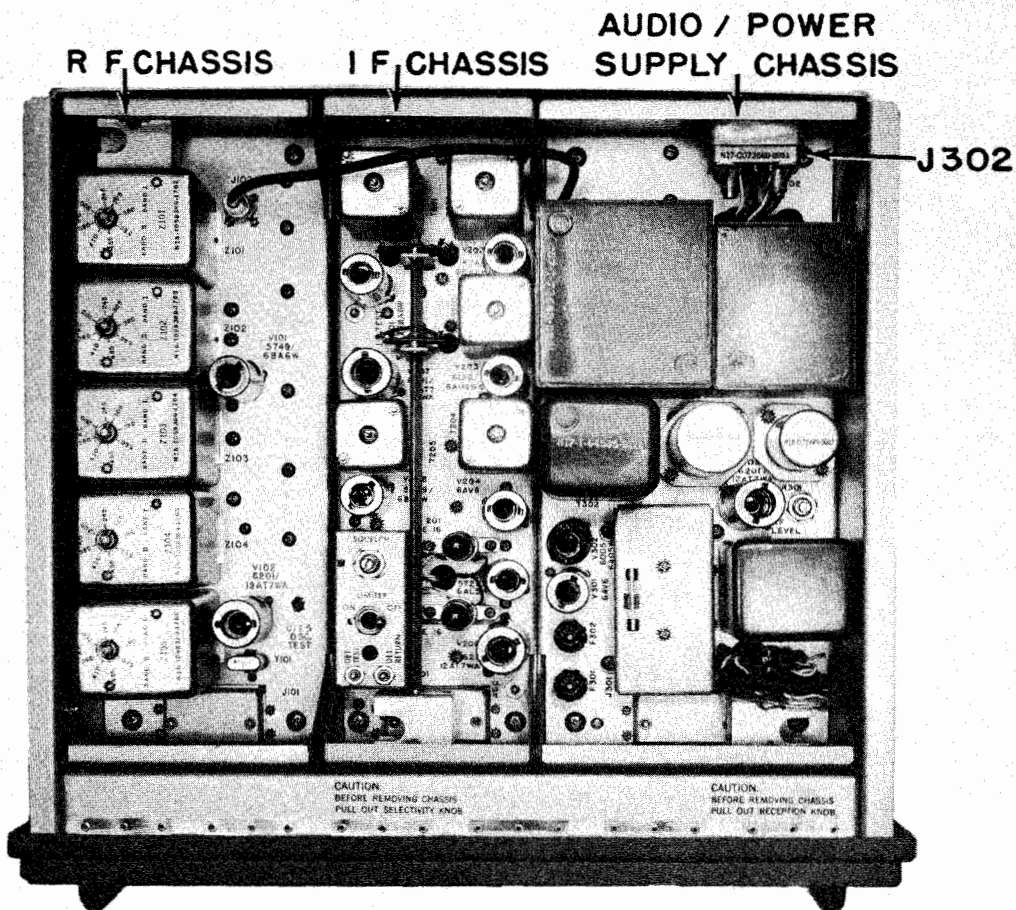

Figure 1-6. Photo—Top View of Chassis out of the case
d. CHASSIS ASSEMBLIES.—These units as indicated in figure 1-6 are completely wired assemblies, designed as plug-in units for quick removal and replacement. End angle brackets, at the front and rear, form handles which facilitate removal and handling. Four mounting stand-offs (one at each corner) with captive screws provide means of fastening the units to the panel-frame assembly. The receptacle connector, located at one end, is covered by a plate to avoid contact with voltage carrying wires. All coils and tubes are shielded except V302 which is held down with a tube clamp.
(1) RF CHASSIS.—This unit, shown in figures 1-6, 2-4 and 2-5, contains the following stages: an RF Amplifier (V101), and a Channel Determining Oscillator (V102). All coils are contained in individual aluminum cans for isolation and reduction of interaction between different parts of the circuits. The RF can tops have frequency calibrations to aid frequency changing. A coaxial receptacle on the top of the RF unit is provided for the antenna transmission line from the Audio/Power Supply chassis.
(2) IF CHASSIS.—This unit illustrated in figures 1-6, 2-9 and 2-10, contains the Mixer (V201), two 75 Kc IF Amplifiers (V202, V203), the Detector-AGC Amplifier (V204), the Beat Frequency Oscillator (V207), the Buffer (V208), the Noise Limiter (V205) and the First Audio Amplifier-Squelch (V206) stages. The transformer coils are slug tuned with a special tool which is furnished with the set for the purpose of tuning all IF transformers. This alignment tool is mounted on the end plate of the Audio/Power Supply chassis. Four chassis feed-thru terminals provide access to alignment test points. The NOISE LIMITER switch (S202) and SQUELCH control (R217) are accessible from the top of the chassis.
(3) AUDIO/POWER SUPPLY CHASSIS.—This
unit is illustrated in figures 1-6, 2-16 and 2-17. A power transformer, a filter choke, and audio transformer and a 1000 cycle filter, all metal cased, are located on the Audio/Power Supply chassis. To the rear of these parts is the connector which mates with that of the rear compartment to provide entrance of all audio, AC power, antenna and remote lines. The AC current is rectified by three selenium rectifiers to furnish B and Bias voltages. The AF LEVEL control is also located on the top of the chassis (R310 A and B). Two post type fuse holders house the two fuses (F301, F302). A spare fuse is mounted in a clip next to the 1000 cycle filter (FL301). A jumper coaxial cable, permanently wired to the J302 receptacle, and terminating in a coaxial connector provides coupling to the RF chassis.